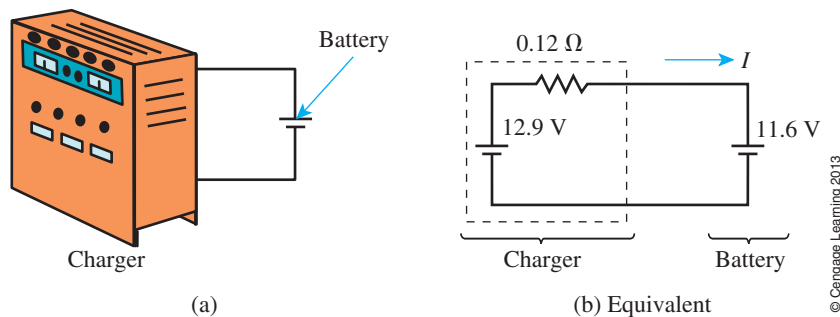

FIGURE 4–41
70. A battery charger with a voltage of 12.9 V is used to charge a battery, Figure 4–41(a). The internal resistance of the charger is $0.12\ \Omega$ and the voltage of the partially run-down battery is 11.6 V. The equivalent circuit for the charger/battery combination is shown in (b). You reason that, since the two voltages are in opposition, net voltage for the circuit will be $12.9\ \text{V} - 11.6\ \text{V} = 1.3\ \text{V}$ and, thus, the charging current I will be $1.3\ \text{V}/0.12\ \Omega = 10.8\ \text{A}$. Set up the circuit of (b) and use Multisim to verify your conclusion.
74. Using PSpice, repeat the Ohm's law analysis (Figure 4–31) except use $R = 25\ \Omega$ and sweep the source voltage from $-10\ \text{V}$ to $+10\ \text{V}$ in 1-V increments. On this graph, what does the negative value for current mean?